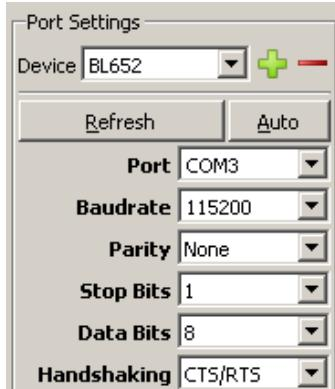

Figure 2: Config tab
3. In the Config tab, set the parameters and COM port associated with your development board (Figure 2).
8. In the COM field, enter the same comport number previously in the Config tab (Figure 2).